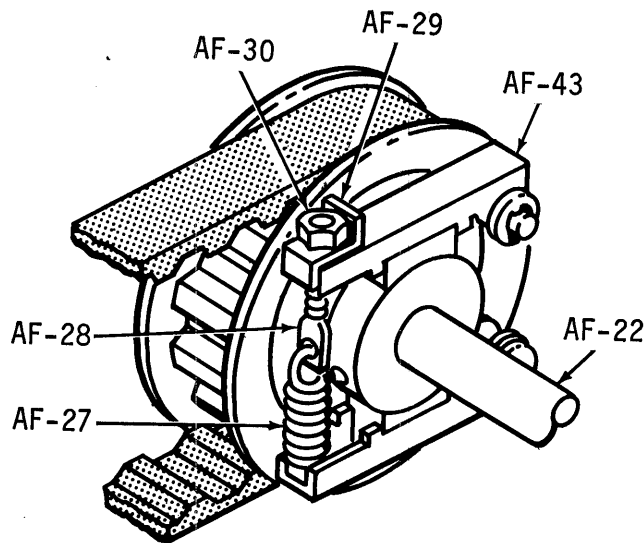

Figure 5-7. TORQUE LIMITING DEVICE (BRAKE)
- A. Idler Pulley (AF-23) (Part of Torque Limiter (Brake Mechanism) (Fig. 5-7).